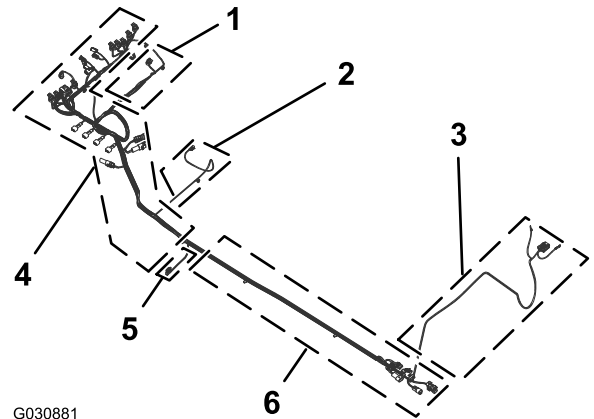

Figure 110
- Locate the 165 cm (65 inches) branch and the 203 cm (80 inches) branch of the new electrical harness (Figure 110).